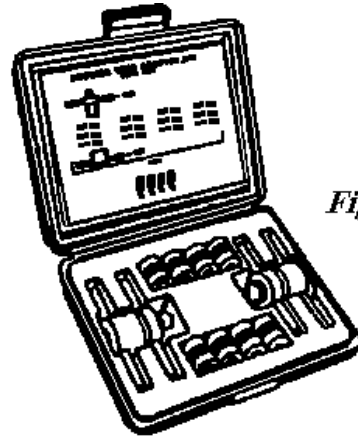

Fig. 6
**Process Tube Adaptor Kit** – This kit allows the attachment of hand valves to various sizes of exposed tubing ends during back flushing, charging, and/or evacuating a sealed system. (Fig. 6)